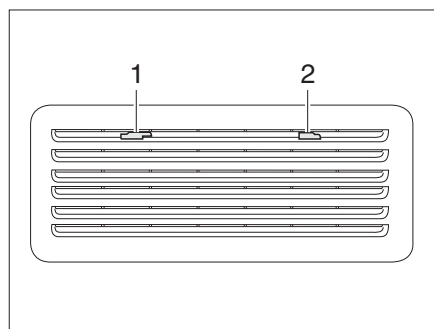
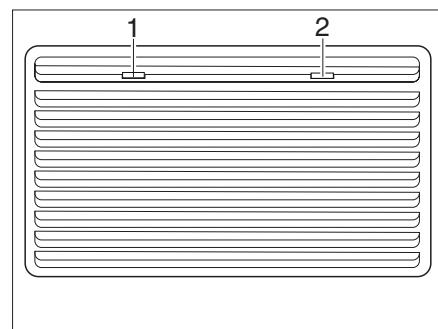

Fig. 131 Refrigerator ventilation grill (Thetford small)
Fig. 132 Refrigerator ventilation grill (Thetford large)
- Slide the locking devices (Fig. 131,1 and 2 or Fig. 132,1 and 2) to the middle.